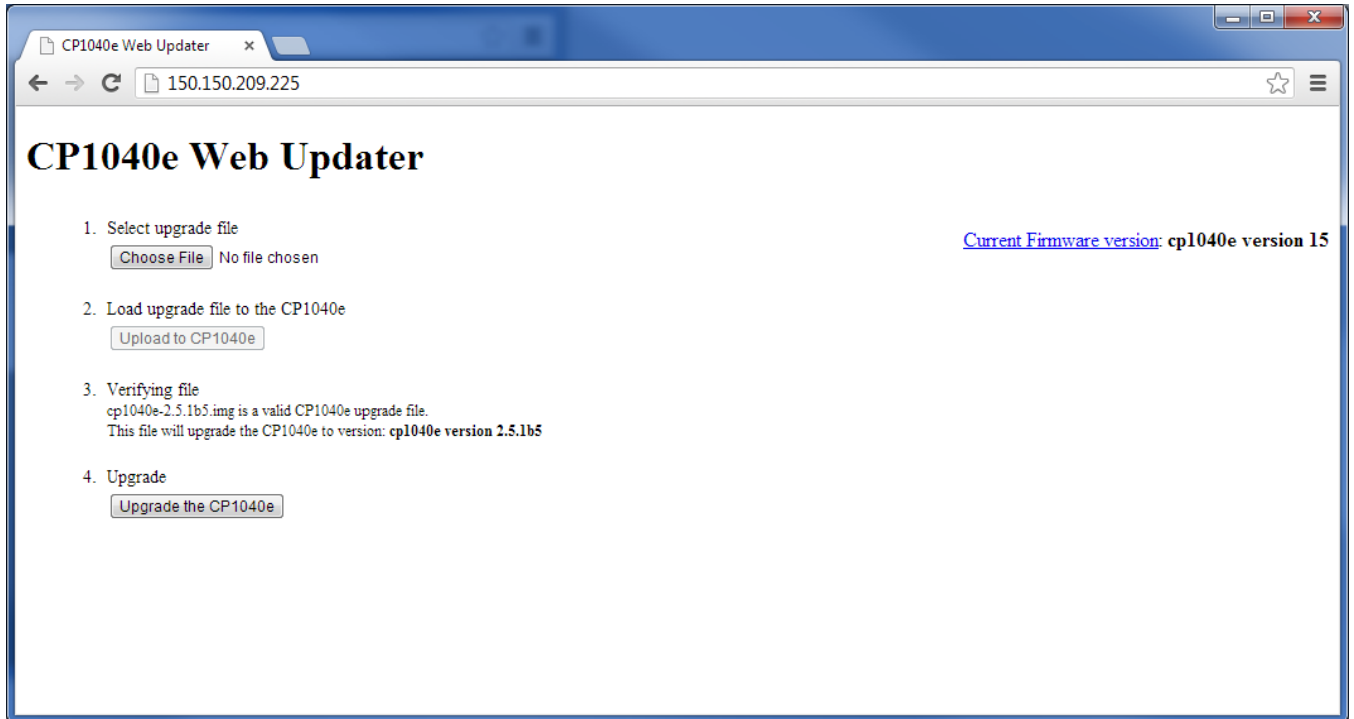

Figure 5-3: Upgrade the CP1040e
- When the firmware has been successfully uploaded, click on the **Upgrade the CP1040e** button, as shown in Figure 5-3. Selecting this button will upgrade the firmware file using the .img file you previously loaded.